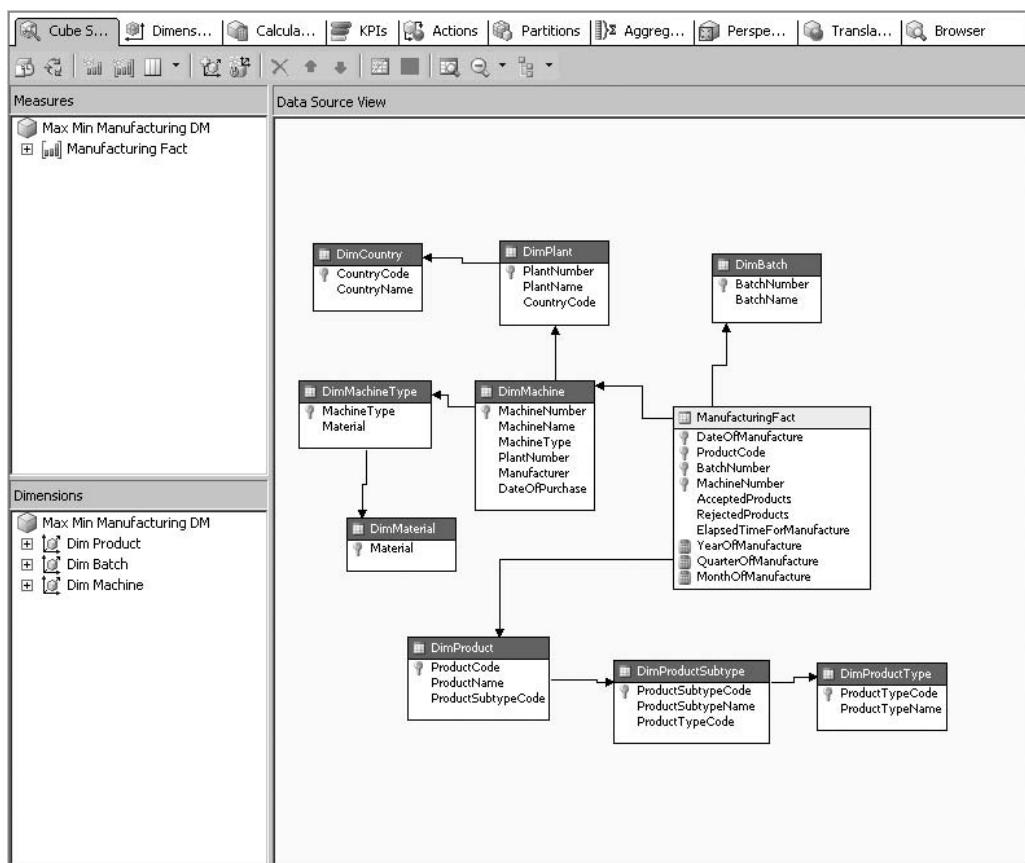

Figure 9-2 The Business Intelligence Development Studio windows after the Cube Wizard completes
34. Enter **Max Min Manufacturing DM** for Cube Name, if it is not already there. Click Finish. The Cube Design tab appears. The Business Intelligence Development Studio windows should appear similar to Figure 9-2.